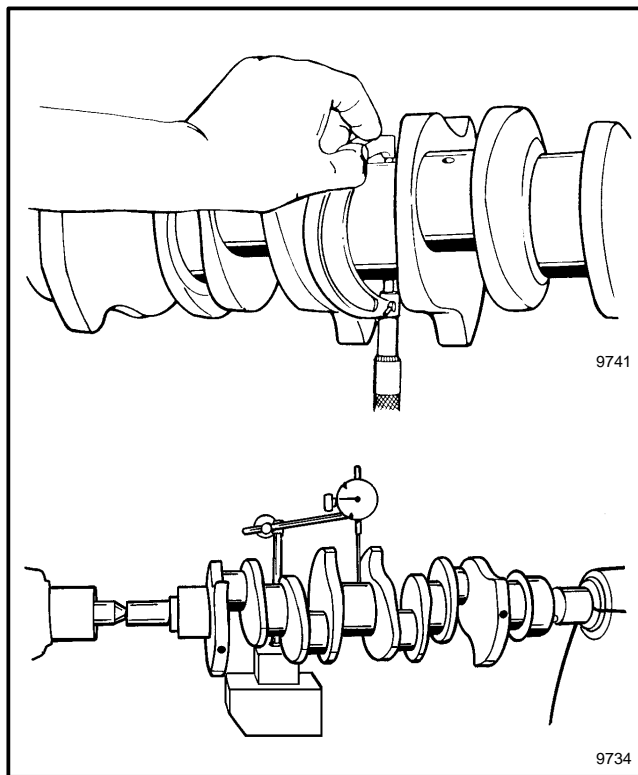

FIGURE 41. CRANKSHAFT INSPECTION
- Inspect the crankshaft for wear and damage. See FIGURE 41. Use a micrometer to measure the journals for the bearings of the crankshaft. Do the measurement at different positions to see if the surface of the bearing is round. The correct sizes are given in the ENGINE SPECIFICATIONS.